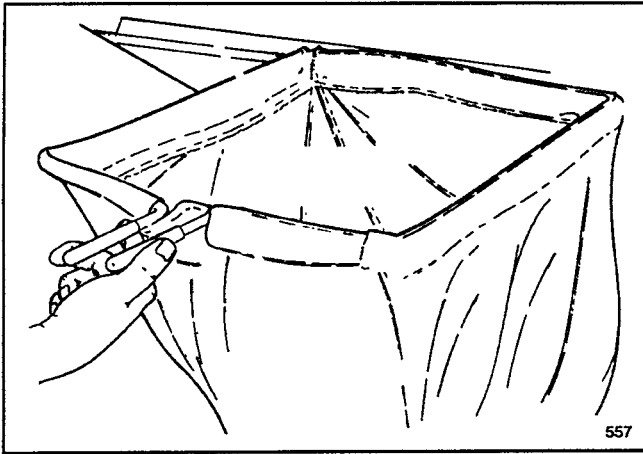

Figure 9
- Slide grass bag under bag frame cover, positioning front edge of bag rod into screen support bracket on bag frame (Fig. 9).